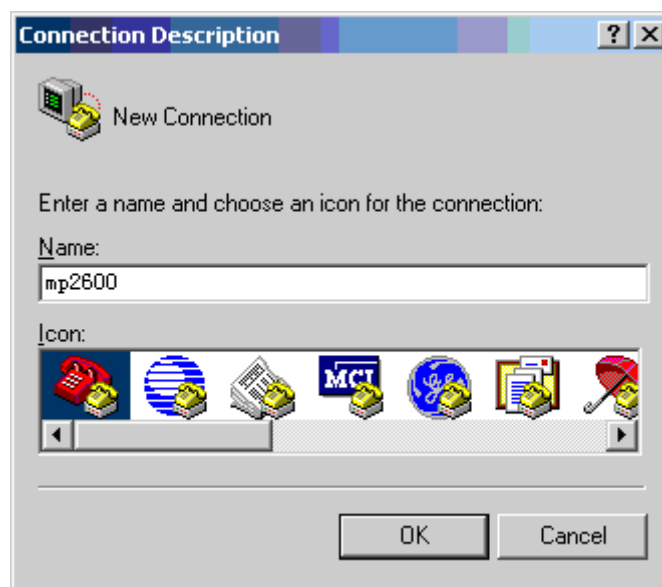

FIGURE 4-2 HYPERTERMINAL CONNECTION DESCRIPTION INTERFACE
- Step 1: Enable the PC (or laptop), select **Start > All Programs > Accessories > Communication > HyperTerminal**, and click  to set up the new connection and display the interface of **Connection Description** as shown in Figure 4-2.